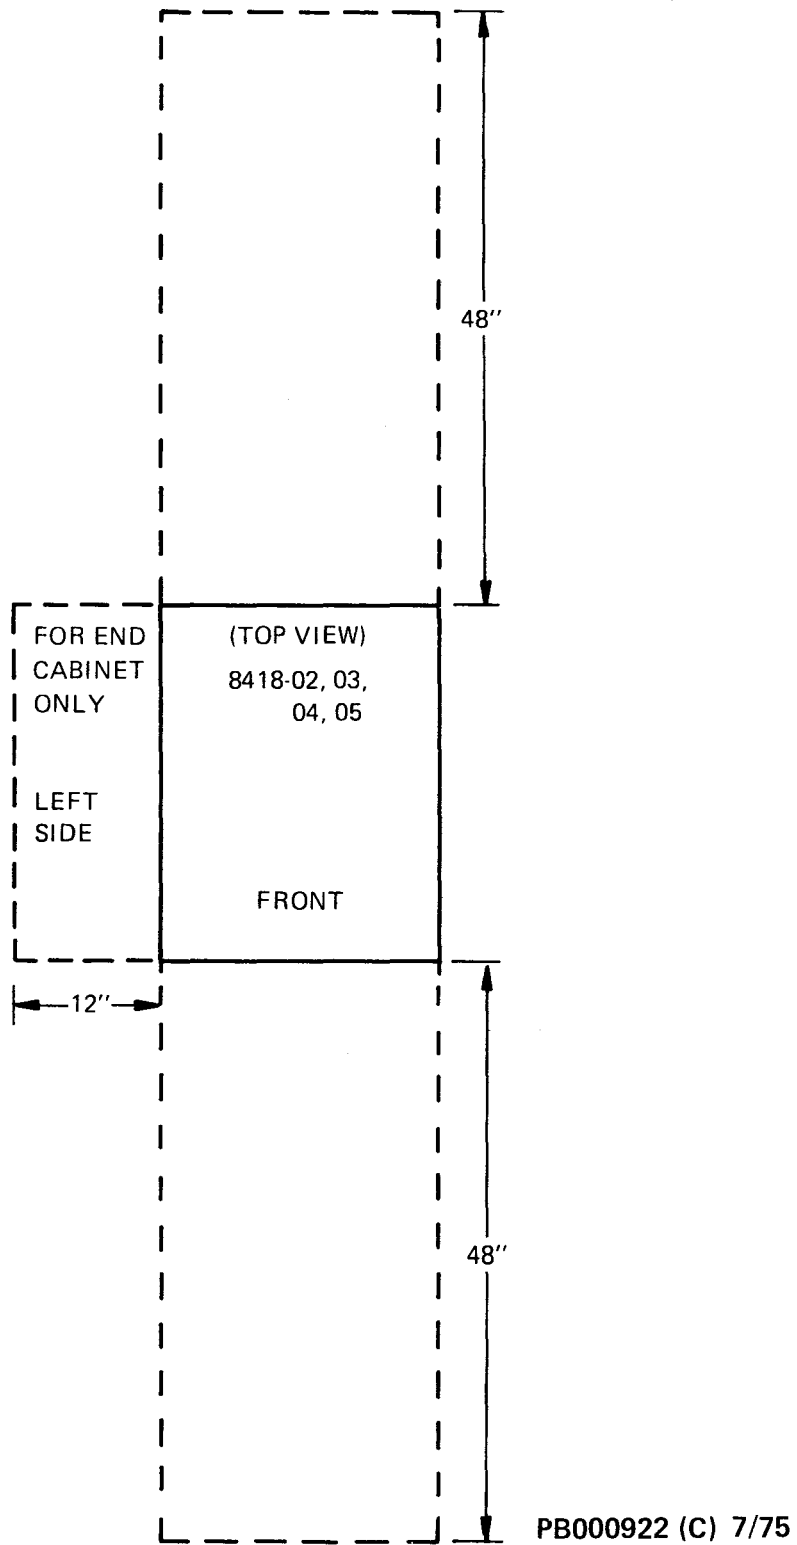

Figure 2-4. Service Clearances for 8418
13. Check for adequate service clearances as shown in figure 2-4.